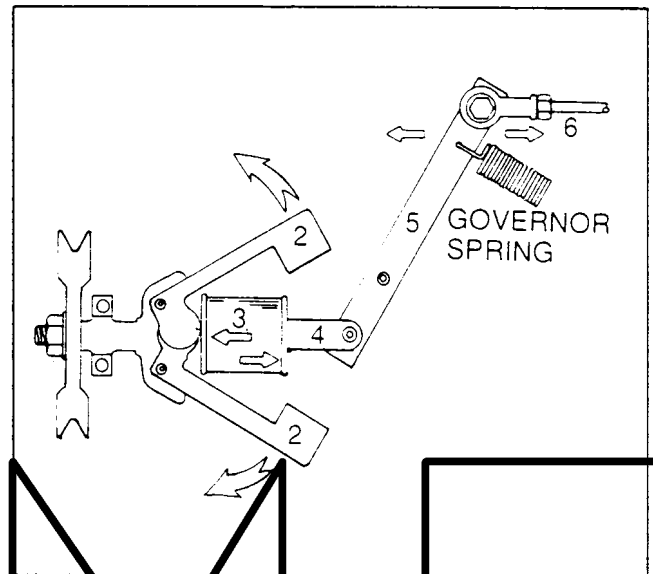

Figure 1 Governor Operating Diagram
See Figure 1. Engine and governor speed will decrease if the load on the engine is increased even slightly. In response to the decrease in engine speed, governor flyweights (2) are forced inward by governor spring force. Flyweight (2) movement is transmitted through a sleeve (3) and a shaft (4) to a governor lever (5). The governor lever (5) then moves a link (6) which actuates the carburetor throttle valve to a more open position. Engine speed then increases.